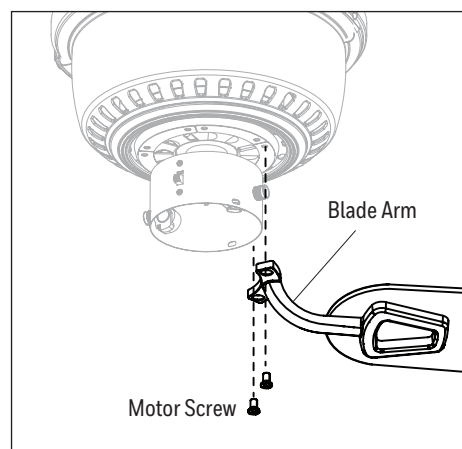

Figure 4.5
- Install the blade arm to the underside of the motor assembly with previously removed motor screws. Tighten each blade arm completely before moving to the next (Figure 4.5).